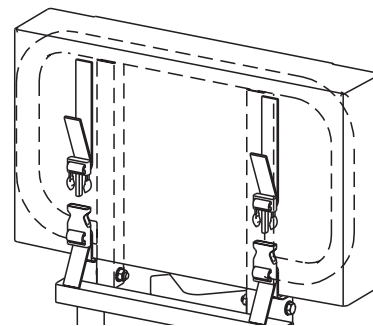

FIGURE 2
2. Attach seat cover (486103) to metal seat frame by sliding seat frame into pocket and snapping buckles together. Pull straps tight so seat is not loose. **SEE FIGURE 2.**